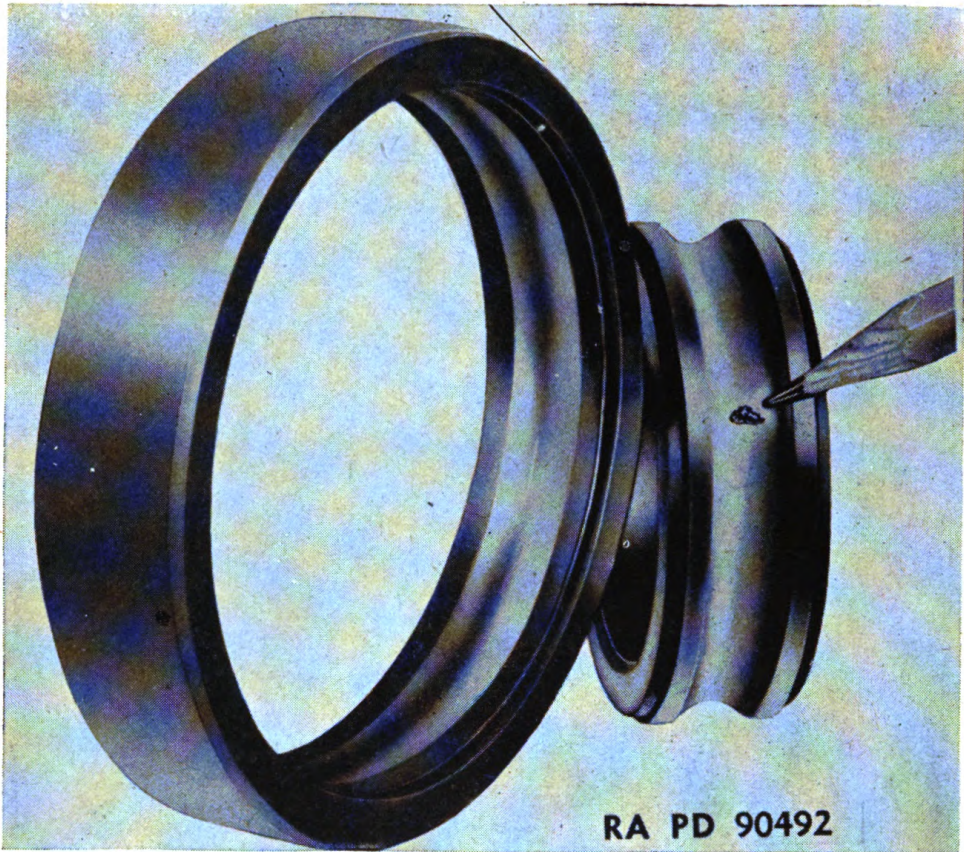

Figure 38. Typical spalling on inner raceway of a ball bearing.
(4) Flaked or spalled areas on balls, rollers, or raceways. (See figs. 38, 39, and 40.) This is primarily due to excessive overload.